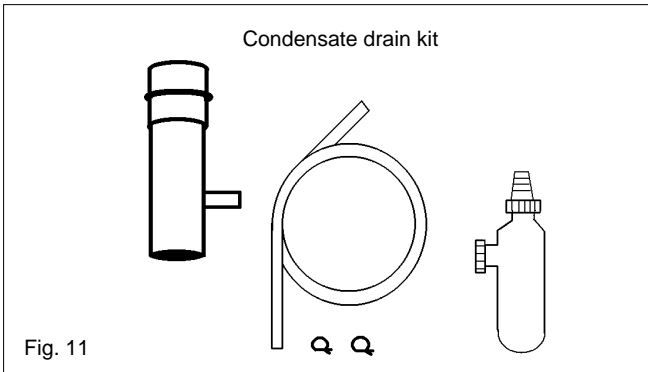

Fig. 11
4.5.3.2 INSTALLATION OF CONDENSATE DRAIN KIT (see fig. 11)